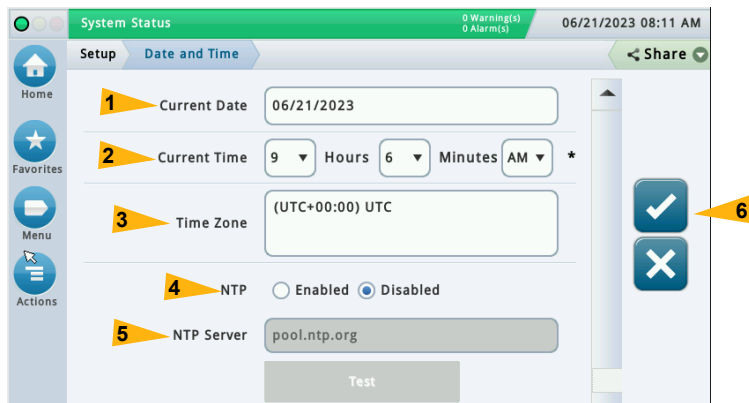

Figure 11. Date and Time Setup Screen
2. Set the current date (item 1, Figure 11) and time (item 2) and desired time zone (item 3). Alternatively, if desired and the ATG is connected to a network through ETH1, enable NTP (item 4) and then specify the NTP server (item 5). Select the ☒ button (item 6) to save the settings.